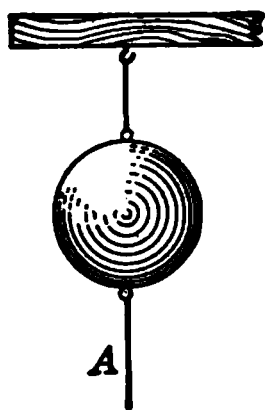

FIG. 10. — A ball has inertia.
5. In Fig. 10 the segment of string supporting the ball is from the same piece as the one attached below. If one pulls at A with a quick jerk, the string will break below the weight; if a steady pull is applied, it will break above the weight. Explain.